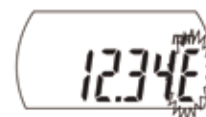

Fig. 5
2. For Digimatic types, the letter "E" at the end of the display that appears momentarily during spindle movement does not indicate a fault. However, if it is displayed continuously then repair is necessary. (**Fig. 5**)